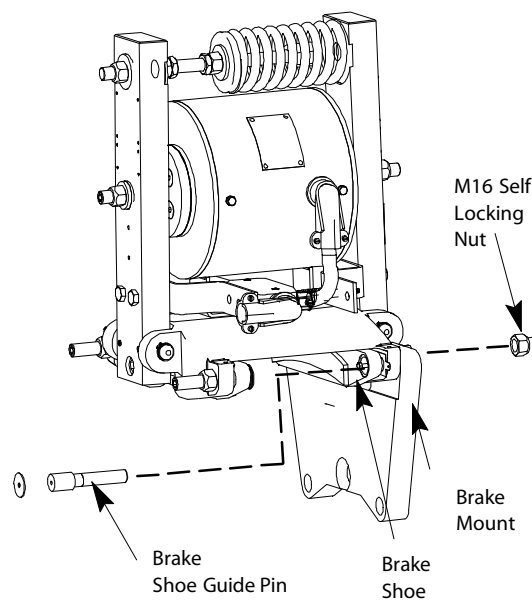

Figure 12 - Brake Shoe Mounting
3. While holding the guide pin with an 8 mm hex wrench, install the M16 self-locking nut and lightly tighten. See Figure 12.